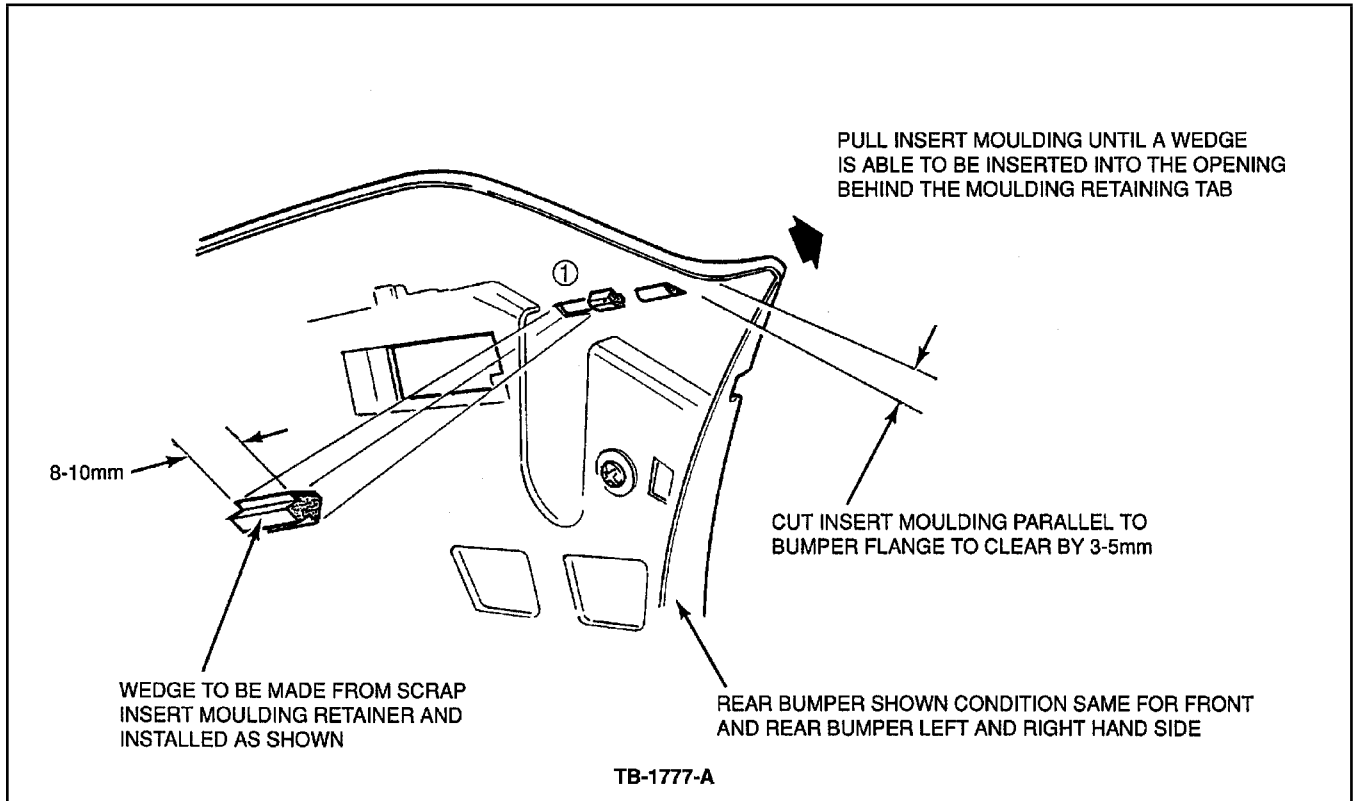

Figure 3 - Article 90-22-4
- a. Pull the insert moulding toward the bumper end until there is sufficient clearance to insert a 8-10mm wide wedge (cut from waste insert moulding) between the rear face of the #1 retaining tab and the rear edge of the retainer opening, Figure 3.